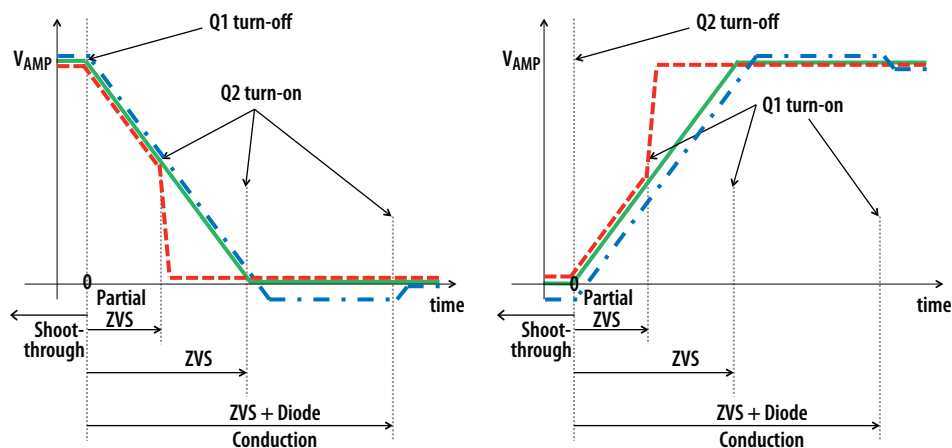

Figure 9: ZVS Timing Diagrams
Setting the correct time to establish ZVS transitions is critical to achieving high efficiency with the EPC9506 / EPC9507 amplifier. This can be done by selecting the values for R74 and R75 respectively. This procedure is best performed using potentiometer P74 and P75 installed that is used to determine the fixed resistor values. The procedure is the same for both single ended and differential mode of operation. The timing MUST initial be set WITHOUT the source coil connected to the amplifier. The timing diagrams are given in Figure 9 and should be referenced when following this procedure. Only perform these steps if changes have been made to the board as it is shipped preset. The steps are:
6. While observing the oscilloscope adjust P74 for the rising edge of the waveform so achieve the green waveform of figure 9. Repeat for the falling edge of the waveform by adjusting P75.